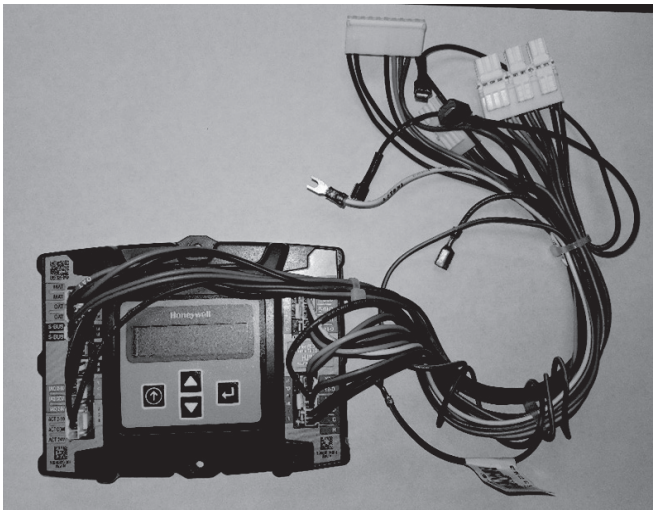

Fig. 24 — Remove Complete Harness Factory Attached to W7220 Controller
2. Step LC2. The 48/50LC 07-12 units require different wiring than is factory-attached to the W7220 Jade controller. Disconnect the complete wiring harness factory-attached to the W7220 Jade controller, as shown below in Fig. 24. This harness can be discarded.